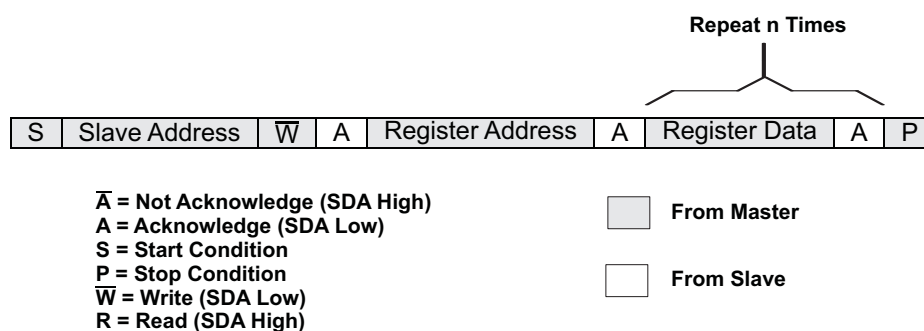
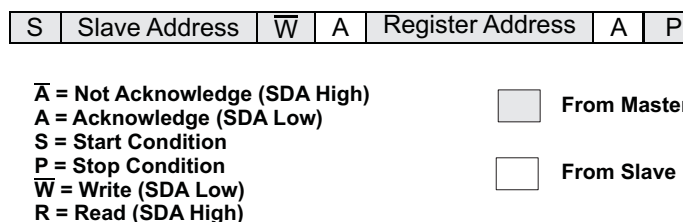
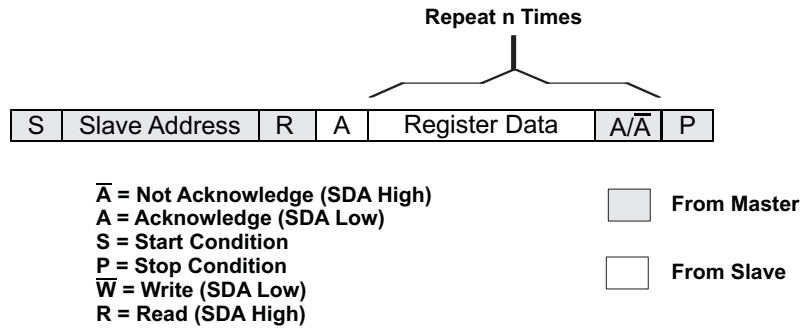
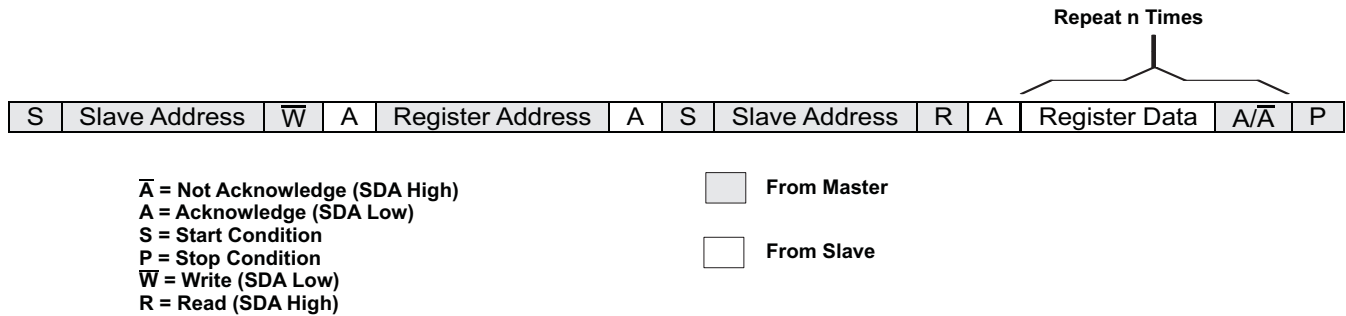

Figure 23. I²C Write Cycle with Register Address and Data
Figure 24. I²C Write Cycle with Register Address Only
Figure 25. I²C Read Cycle
Figure 26. I²C Combined Format Write/Read Cycle
During a write cycle, the slave sends an acknowledge (A) after every byte that follows the device address. The first byte following the device address is the register address, which maps to the register addresses specific to the device. The second byte following the device address is the data byte to be written at the register address (see Figure 23). If only the register address is to be written for a subsequent read sequence, the data byte is omitted and the sequence ends with a Stop (see Figure 24) or a repeated Start after the register address byte (see Figure 26). If multiple data bytes are to be written at subsequent register addresses, the master may continue to send data bytes after each slave acknowledge, and the slave device automatically increments the register address. Note that the master must not drive the SDA signal line during the slave acknowledge since the slave is in control of the SDA bus and may be holding it low.
During a read cycle, the slave acknowledges the initial address byte if it decodes the device address as its own device address. Following this initial acknowledge by the slave, the master device becomes a receiver and acknowledges data bytes sent by the slave. The first byte received by the master is the data stored at the register address, while subsequent bytes are data stored at incrementing register addresses. When the master has received all of the requested data bytes from the slave, the not acknowledge (A) condition is initiated by the master by keeping the SDA signal high just before it asserts the Stop (P) condition. This sequence terminates a read cycle as shown in Figure 25. A combined format is when the read cycle is preceded by a write cycle for setting the register address, and is shown in Figure 26.